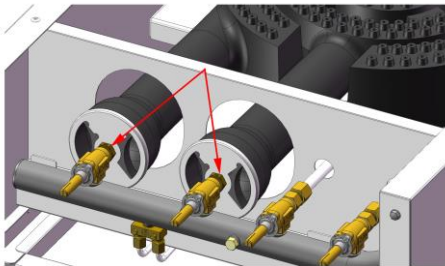

Fig.8
2. As Fig. 8 shows, screw out the Natural Gas orifice counterclockwise, then screw in the Propane Gas orifice clockwise.